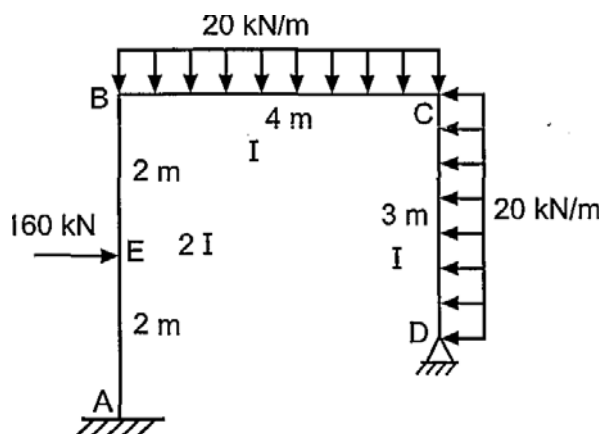

Fig. 3
- Q4) a) Determine the stiffness matrix and transformation matrix for plane frame member AB shown in the figure 3. Take $A = 200 \text{ mm}^2$, $E = 200 \text{ GPa}$ and $I = 800 \text{ mm}^4$. [8]